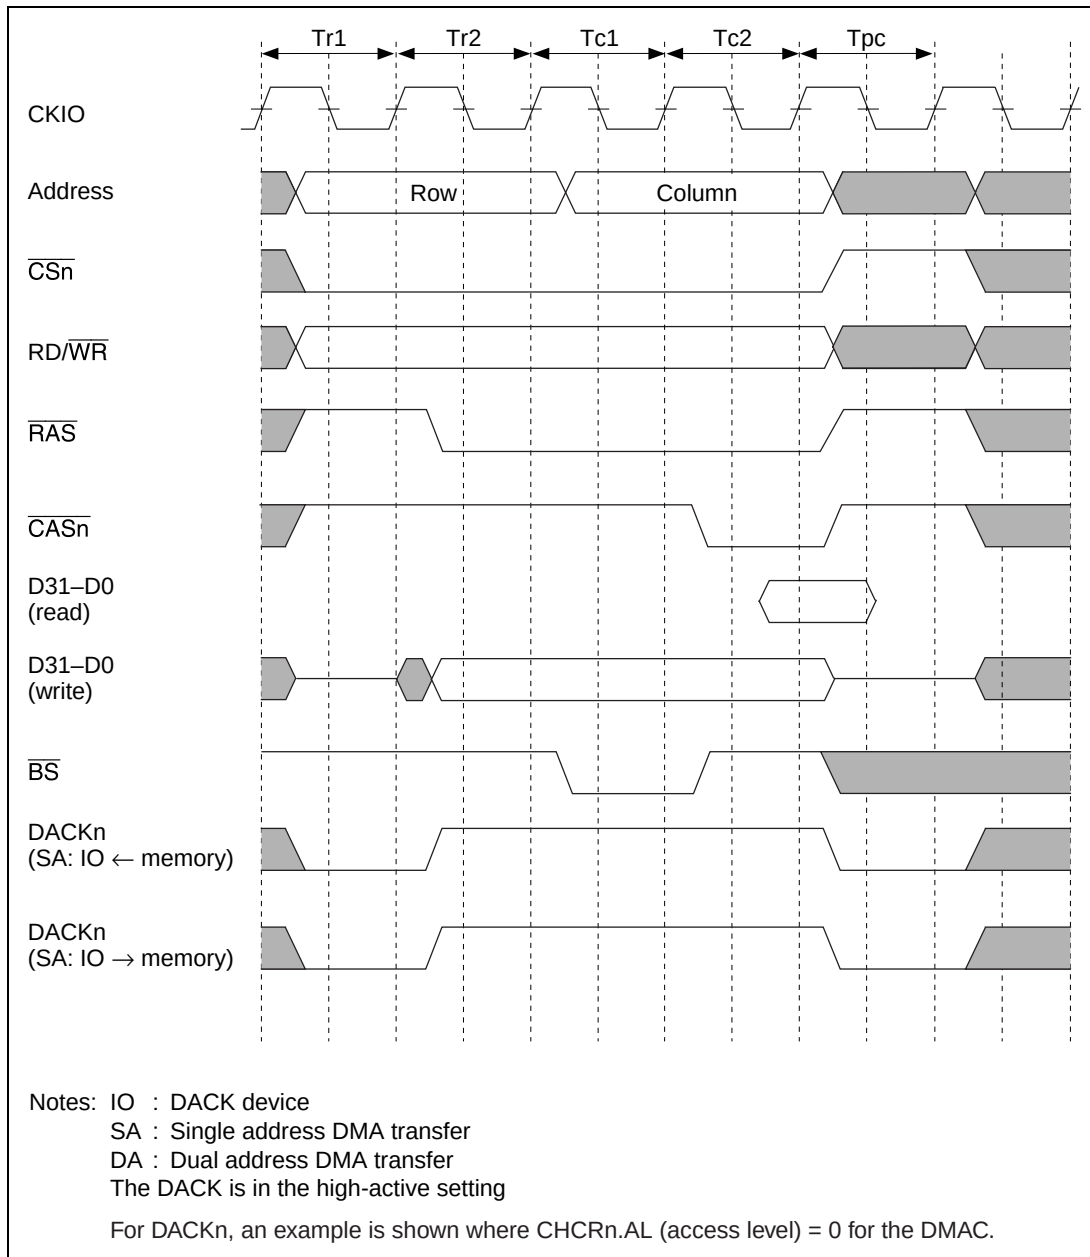

**Figure 13.14 Basic DRAM Access Timing**
**Basic Timing:** The basic timing for DRAM access is 4 cycles. This basic timing is shown in figure 13.14. Tpc is the precharge cycle, Tr the  $\overline{\text{RAS}}$  assert cycle, Tc1 the  $\overline{\text{CAS}}$  assert cycle, and Tc2 the read data latch cycle.